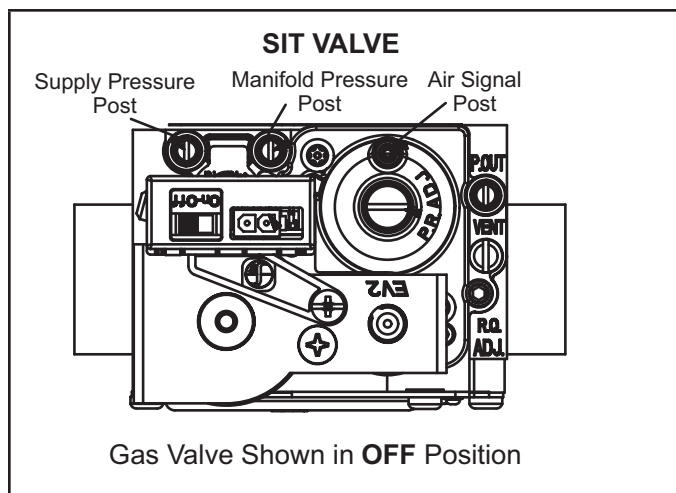

FIGURE 2
- 2 - Check the gas manifold pressure on the SIT gas valve by opening the manifold pressure post. See figure 2. Using a 4.5-5 x 0.8 mm screw driver, loosen the slot headed brass sealing screws. The sealant screws can not be removed.